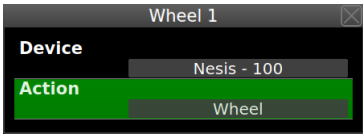

Figure 4.26: Joyu wheel movement was assigned to Nesis with serial number 100. Action in this case is knob rotate action, which equals to wheel.
4. Rotate a wheel. Same window appears, but with less options. Figure 4.26 illustrates an example.